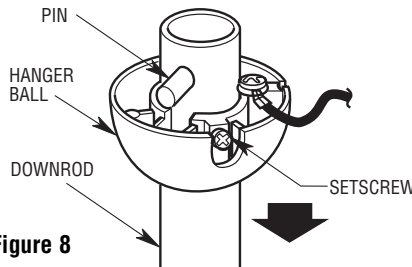
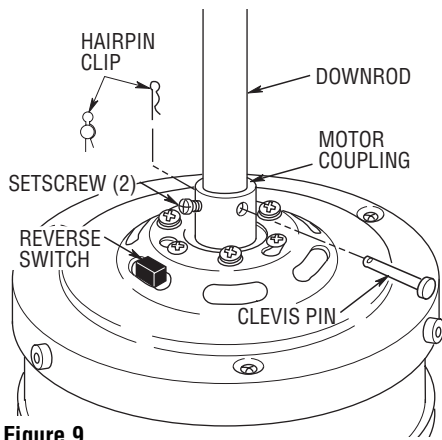

Figure 8
Figure 9
- 7. Remove the hanger ball by loosening the setscrew in the hanger ball until the ball falls freely down the downrod (Figure 8). Remove the pin from the downrod, then remove the hanger ball. Retain the pin and hanger ball for reinstallation in Step 15.
- 8. Unscrew the two upper setscrews (Figure 8) until they clear the inside of the motor coupling. Then separate, untwist and unkink the three 80" motor leads. Route the motor lead wires through the downrod. Align the clevis pin holes in the downrod with the holes in the motor coupling. Install the clevis pin and secure with the hairpin clip (Figure 9). The clevis pin must go through the holes in the motor coupling and the holes in the downrod. Be sure to push the straight leg of the hairpin clip through the hole near the end of the clevis pin until the curved portion of the hairpin clip snaps around the clevis pin. The hairpin clip must be properly installed to prevent the clevis pin from working loose. Pull up on the downrod to make sure the clevis pin is properly installed.
It is critical that the clevis pin in the motor coupling is properly installed and the setscrews securely tightened. Failure to verify that the pin and setscrews are properly installed (as shown in Figure 9) could result in the fan falling.
- 9. Tighten the setscrews (Figure 9) securely while pulling up on the downrod.